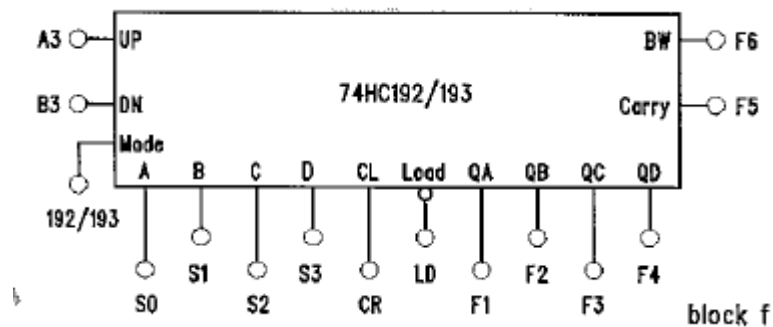

Figure 3.1
- As shown in **Figure 3.1**, set the pin “192/193” to SW7, and set it to LOW to make it running 74193 function. The truth table of 74193 is presented in **Table 3.1**.